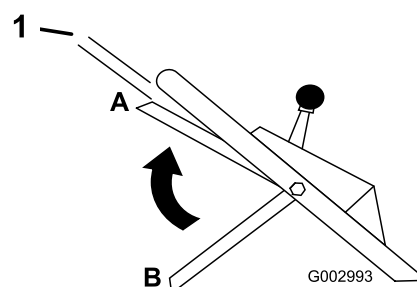

Figure 18
10. Lift the blade control bar up to about one inch (2.5 cm) below the handle; refer to position A in Figure 18.